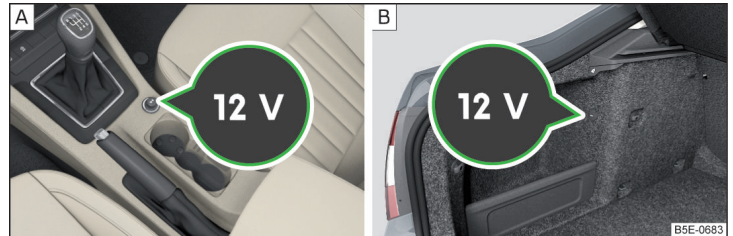

Fig. 114 12-volt socket cover: in the front centre console/in the luggage compartment
- ▶ To use, remove the cover from the socket » [Fig. 114 - \[A\]](#) or open the cover of the socket » [Fig. 114 - \[B\]](#).